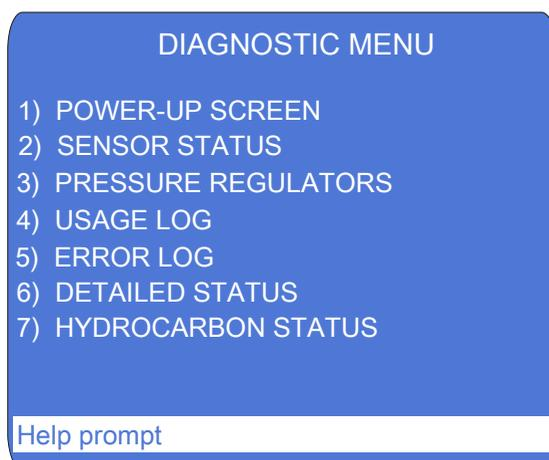

Figure B-5. Diagnostics Menu
2. On the **MAIN MENU OF SCREENS**, select **DIAGNOSTICS** and press **Enter**. The **DIAGNOSTIC MENU** appears (see Figure B-5).